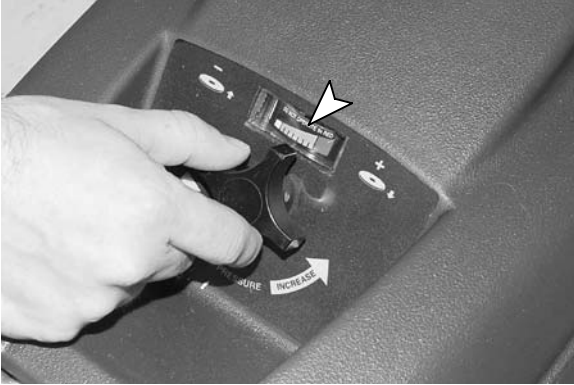

FIG. 8
5. To adjust the pad pressure, turn the adjustment knob counter-clockwise to increase pad pressure and clockwise to decrease (Figure 8). Do not adjust the pad pressure meter in the red zone, motor and floor damage may result.